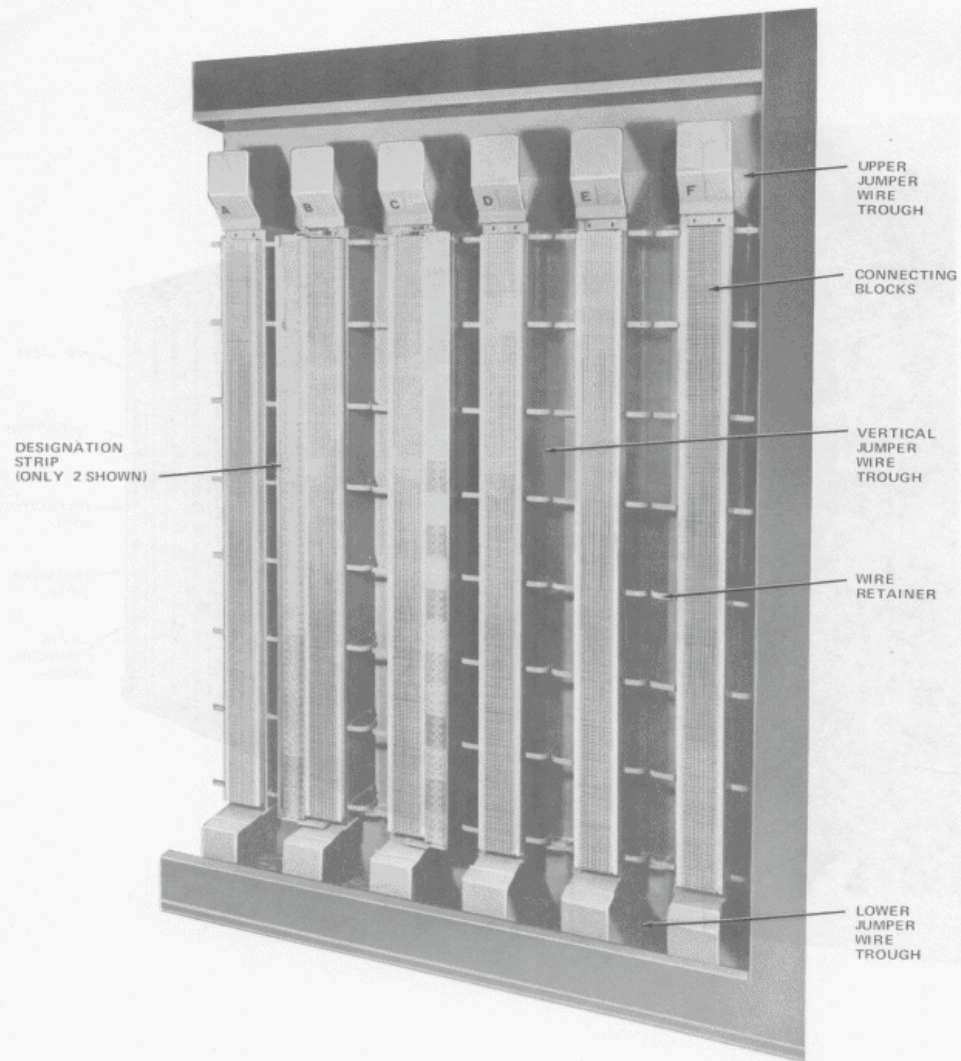

Fig. 3—Trunk Distributing Frame (or Intermediate Distributing Frame)
**2.07** A trunk distributing frame (TDF) is composed of six verticals of 1216 terminals each in a module 7 feet 0 inch high and 4 feet 4 inches wide, with provision for only one connection on each quick-connect terminal. The TDF provides for the cross connection of trunks to trunk link networks to simplify traffic balancing. See Figure 3.
**2.08** The intermediate distributing frame can be located at the head end of the main distributing frame, and in line with it, the two frames growing in opposite directions (Fig. 3). At this point, the intermediate distributing frame will be 8 feet high